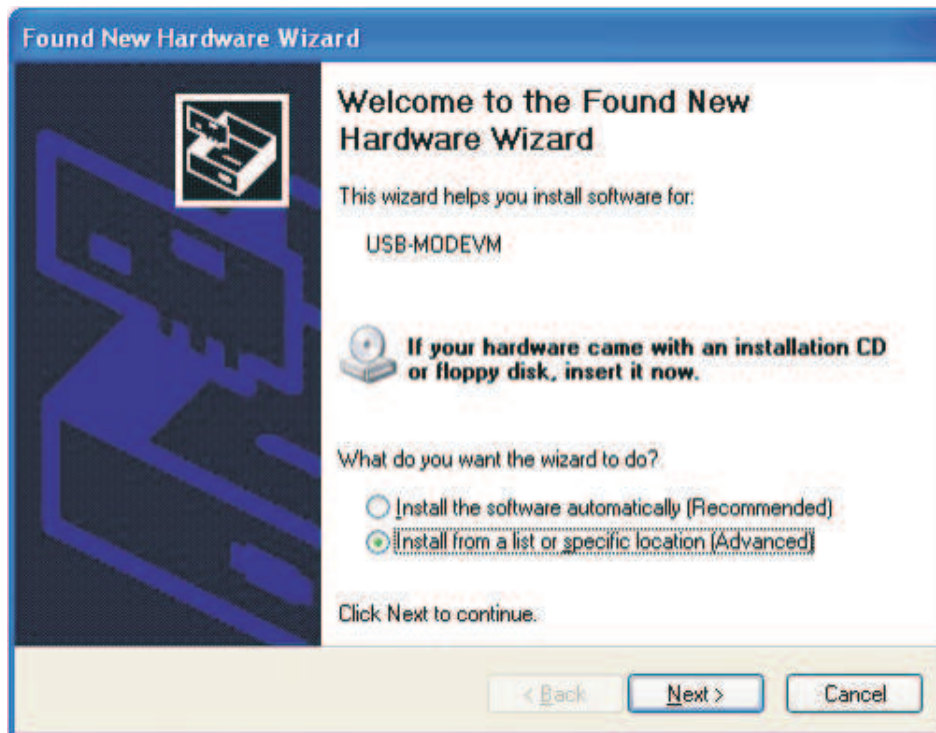

**Figure 1. Place Shunts Horizontally Across SCL and SDA**
4. Install shunts in JP2 and JP3 as shown in Figure 1. This sets the TPA2016D2 to accept I2C inputs from the EVM itself.